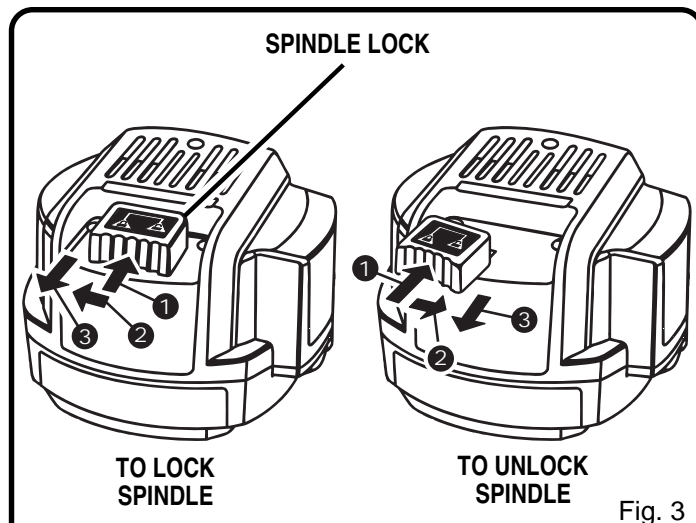

Fig. 3
See Figures 3, 4, and 5.
- A spindle lock is located on the top of the end cap. See Figure 3. To activate lock, (1) push spindle lock in, (2) slide into lock position, then (3) release spindle lock.